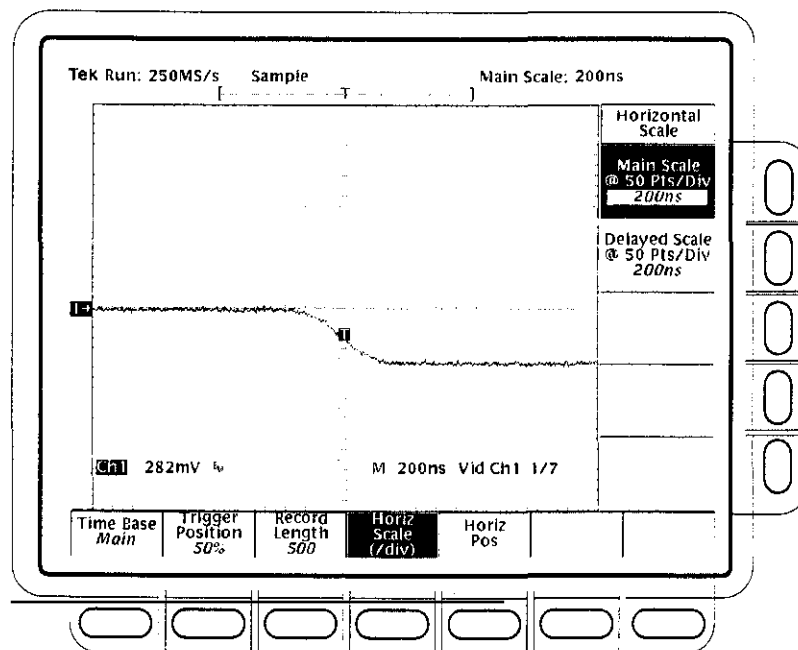

Figure 1-26: Jitter Test Displayed Waveform
- b. CHECK that the oscilloscope lights up its front panel **TRIG'D** LED and it displays the waveform on screen. See Figure 1-26.